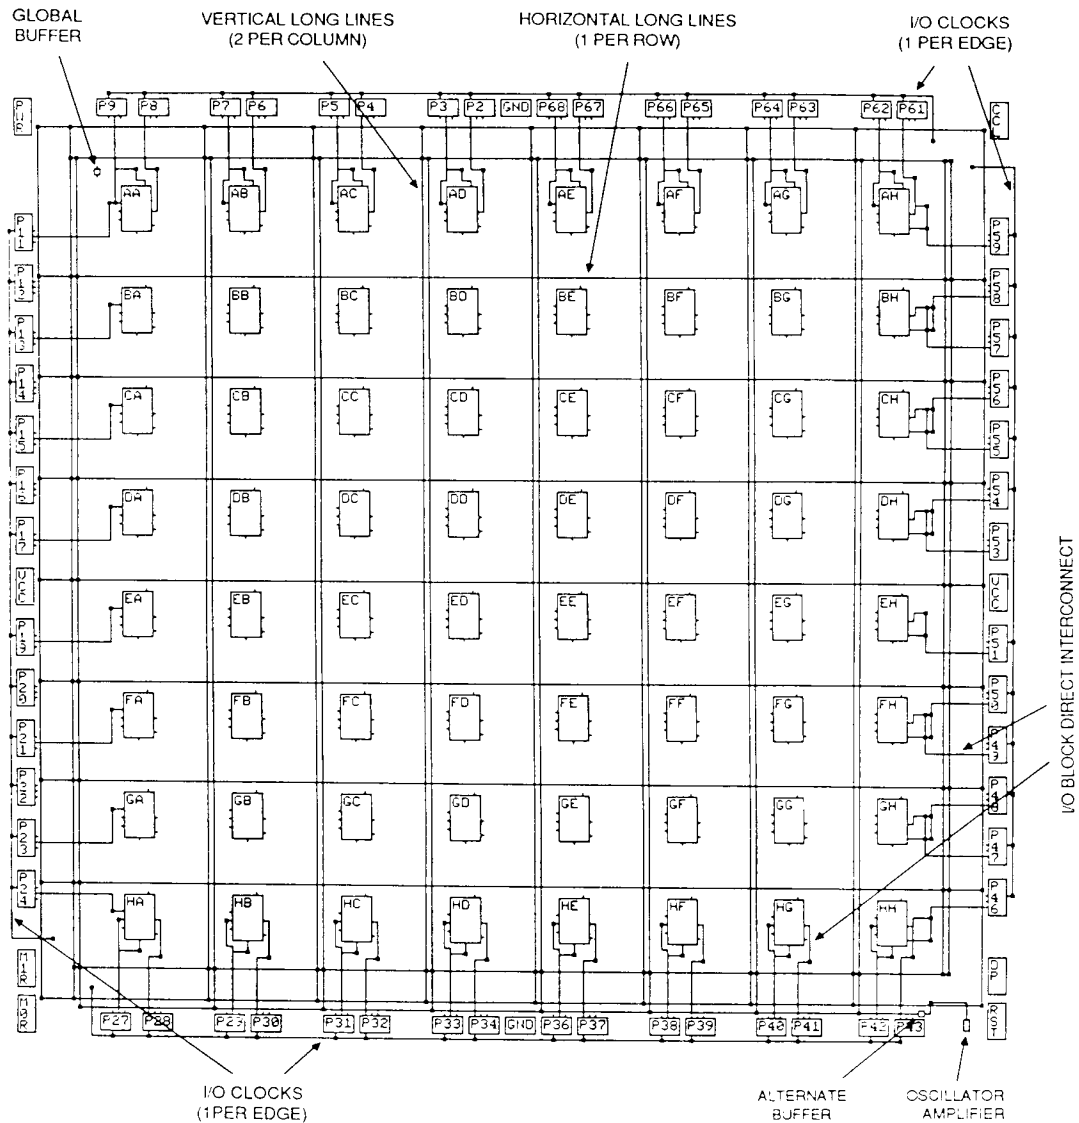
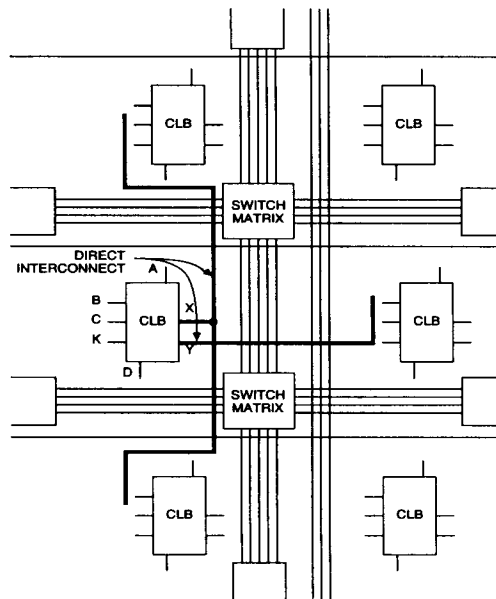
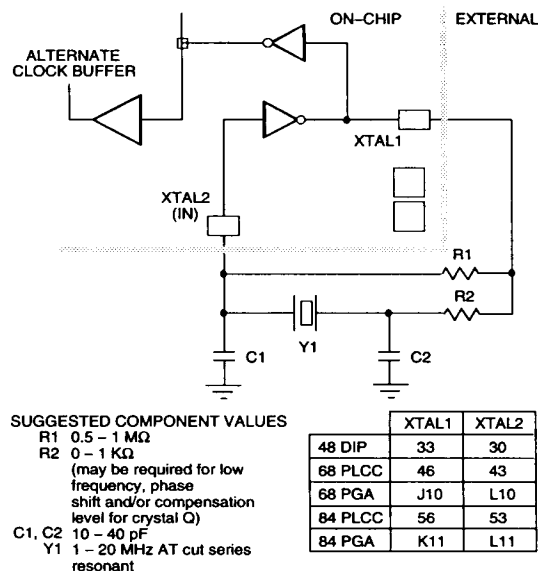

Figure 8b. XC2064 Longlines, I/O Clocks, I/O Direct Interconnect
Figure 9. Direct Interconnect
Figure 10. Crystal Oscillator
Alternatively, these Longlines can be driven by a logic or I/O block on a column by column basis. This capability provides a common, low-skew clock or control line within each column of logic blocks. Interconnections of these Longlines are shown in Figure 8b.
Direct interconnect, shown in Figure 9, provides the most efficient implementation of networks between adjacent logic or I/O blocks. Signals routed from block to block by means of direct interconnect exhibit minimum interconnect propagation and use minimum interconnect resources. For each Configurable Logic Block, the X output may be connected directly to the C or D inputs of the CLB above and to the A or B inputs of the CLB below it. The Y output can use direct interconnect to drive the B input of the block immediately to its right. Where logic blocks are adjacent to I/O blocks, direct connect is provided to the I/O block input (I) on the left edge of the die, the output (O) on the right edge, or both on I/O blocks at the top and bottom of the die. Direct interconnections of I/O blocks with CLBs are shown in Figure 8b.
Figure 8b also shows the location of an internal high speed inverting amplifier which may be used to implement an on-chip crystal oscillator. It is associated with the auxiliary buffer in the lower right corner of the die. When the oscillator is configured by MAKEBITS and connected as a signal source, two special user IOBs are also configured to connect the oscillator amplifier with external crystal oscillator components as shown in Figure 10. A divide by two option is available to assure symmetry. The oscillator circuit becomes active in order to allow the oscillator to stabilize. Actual internal connection is delayed until completion of configuration. In Figure 10, the feedback resistor R1, between the output and input, biases the amplifier at threshold. The inversion of the amplifier, together with the R-C networks and an AT-cut series resonant crystal, produce the 360-degree phase shift of the Pierce oscillator. A series resistor R2 may be included to add to the amplifier output impedance when needed for phase-shift control, crystal resistance matching, or to limit the amplifier input swing to control clipping at large amplitudes. Excess feedback voltage may be corrected by the ratio of C2/C1. The amplifier is designed to be used from 1 MHz to about one-half the specified CLB toggle frequency. Use at frequencies below 1 MHz may require individual characterization with respect to a series resistance. Crystal oscillators above 20 MHz generally require a crystal which operates in a third overtone mode, where the fundamental frequency must be suppressed by an inductor across C2, turning this parallel resonant circuit to double the fundamental crystal frequency, i.e., 2/3 of the desired third harmonic frequency network. When the oscillator inverter is not used, these IOBs and their package pins are available for general user I/O.